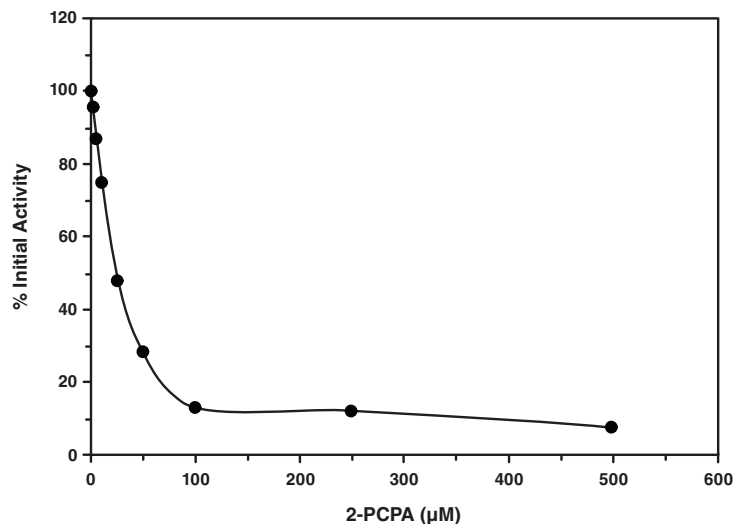

Figure 3. Inhibition of LSD1 by 2-PCPA ( $IC_{50} = 22 \mu M$ )
4. Either graph the Percent Inhibition or Percent Initial Activity as a function of the inhibitor concentration to determine the IC50 value (concentration at which there was 50% inhibition). An example of LSD1 inhibition by *trans*-2-phenylcyclopropylamine (2-PCPA, Item No. 10010494), is shown in Figure 3 on page 14.9,10